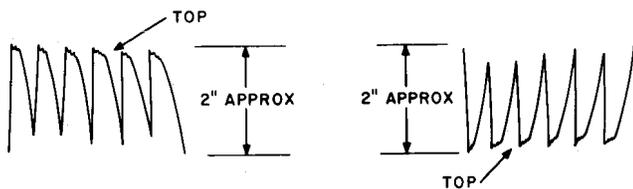

Fig. 2—Voltage Waveshapes at Input to Filter
- (b) Adjust the sweep frequency so as to have six partial sine waves present on the oscilloscope as indicated in Fig. 2. The trace may appear as either one of the two figures shown. The height of the trace shall be approximately two inches. If all waves are approximately of equal height, the cores of the L1, L2, and L3 saturable reactors are balanced and the trouble is elsewhere (check filter). If they are not of equal height, it is an indication of a defective saturable reactor or an open BAL 1 through BAL 6 balancing potentiometer.
- (f) The adjustment of any of the BAL potentiometers affects the lower position (opposite TOP Fig. 2) of two partial sine waves. If the height of any wave cannot be adjusted, it is an indication of a defective associated saturable reactor. Replace it and match the core characteristics of all the saturable reactors as follows.
defined as the longest line from TOP as designated in Fig. 2).